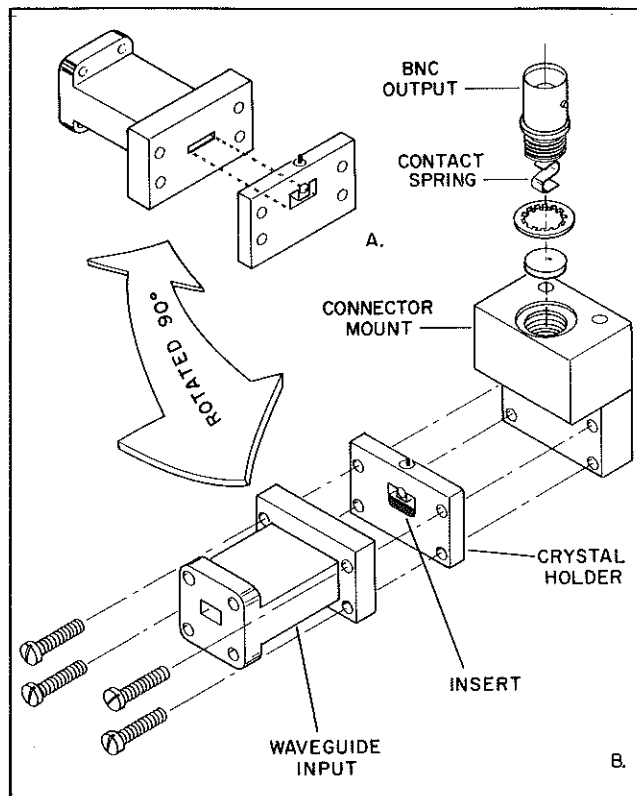

Figure 6. Exploded View of Model 422A Crystal Detector
26. **PROCEDURE.** Parts mentioned in the following procedure are identified in Figures 6 and 7.
32. Parts referred to in the following procedure are identified in Figure 6. To replace the crystal holder, proceed as follows: